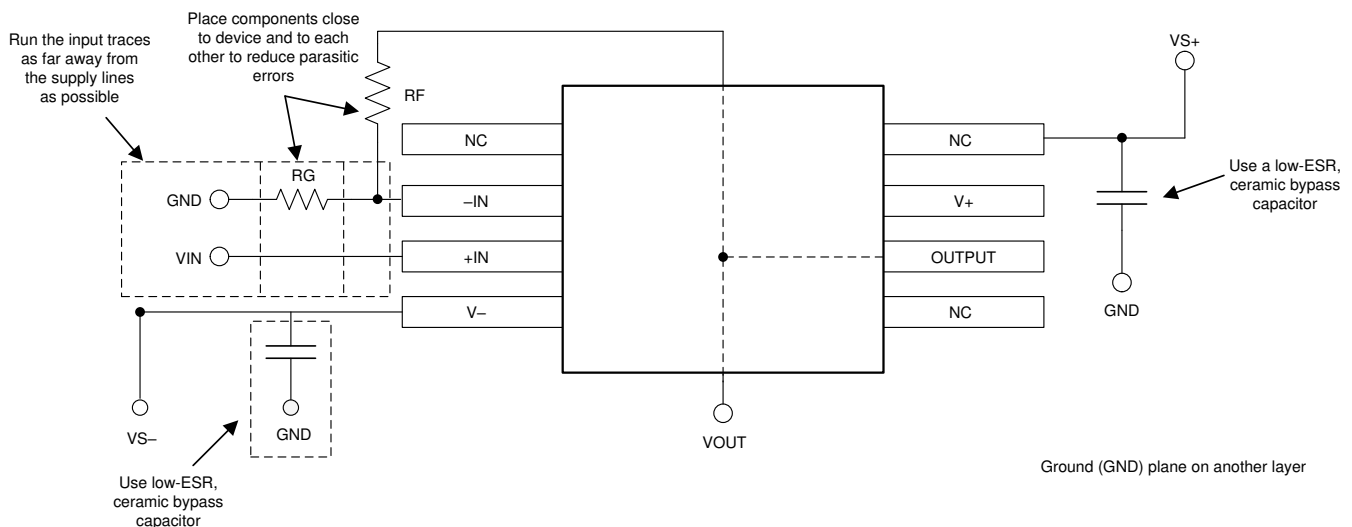

Figure 10-1. Operational Amplifier Board Layout for Noninverting Configuration
- Place the external components as close to the device as possible. As illustrated in Figure 10-1, keeping RF and RG close to the inverting input minimizes parasitic capacitance.